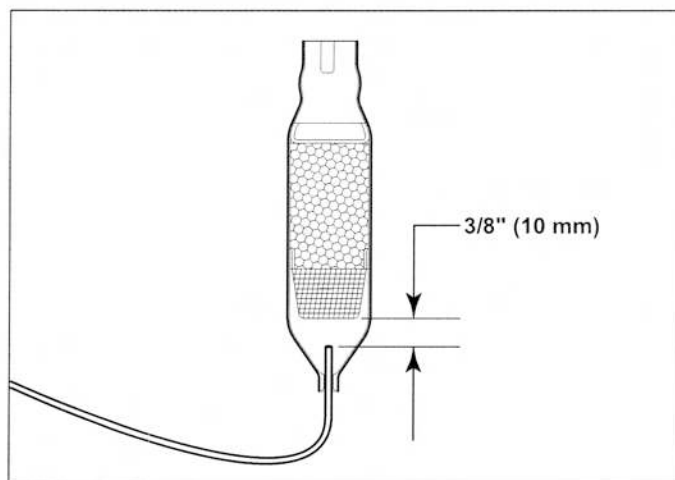

Figure 7-40. Filter-Drier Cut-Away View
**NOTE:** When installing the replacement filter-drier, insert the capillary tube until it touches the screen, then pull the capillary tube approximately 3/8" (10 mm) away from the screen before brazing. (See Figure 7-40) When installing a new filter-drier, be sure to thoroughly clean the tubing before brazing.